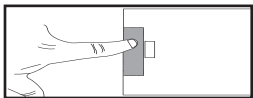

Figure 8.2; Reinforce Vertical Slat
Use the included VERTICAL BLIND REINFORCEMENT TAPE (E) to reinforce the top of the first vertical slat [Fig. 8.2].